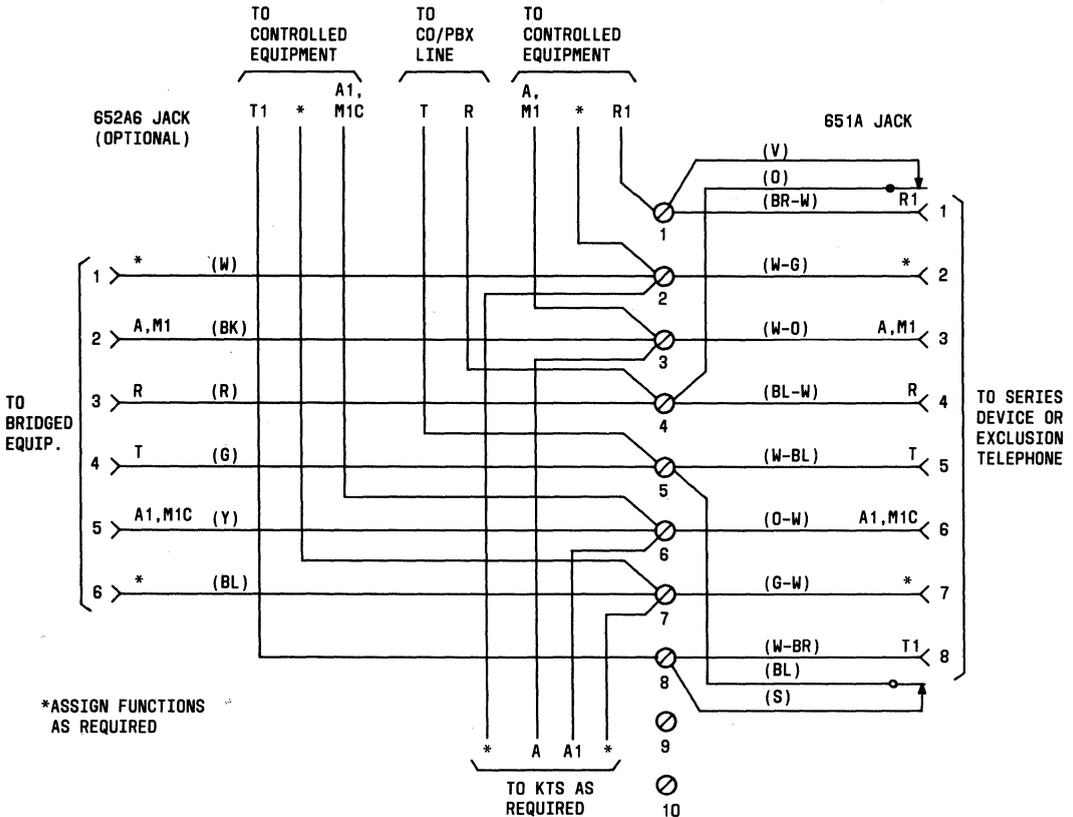

Fig. 13—Schematic Diagram, 635B Connecting Block (Series and/or Bridged Service)
3.13 635B Connecting Block: Remove the cover from the block by loosening the screw in the center. Mount the block on a suitable vertical surface. Connect the line and control station leads to the screw terminals (Fig. 13). If the optional 652A jack is to be installed, connect as shown in Fig. 13 or 14.